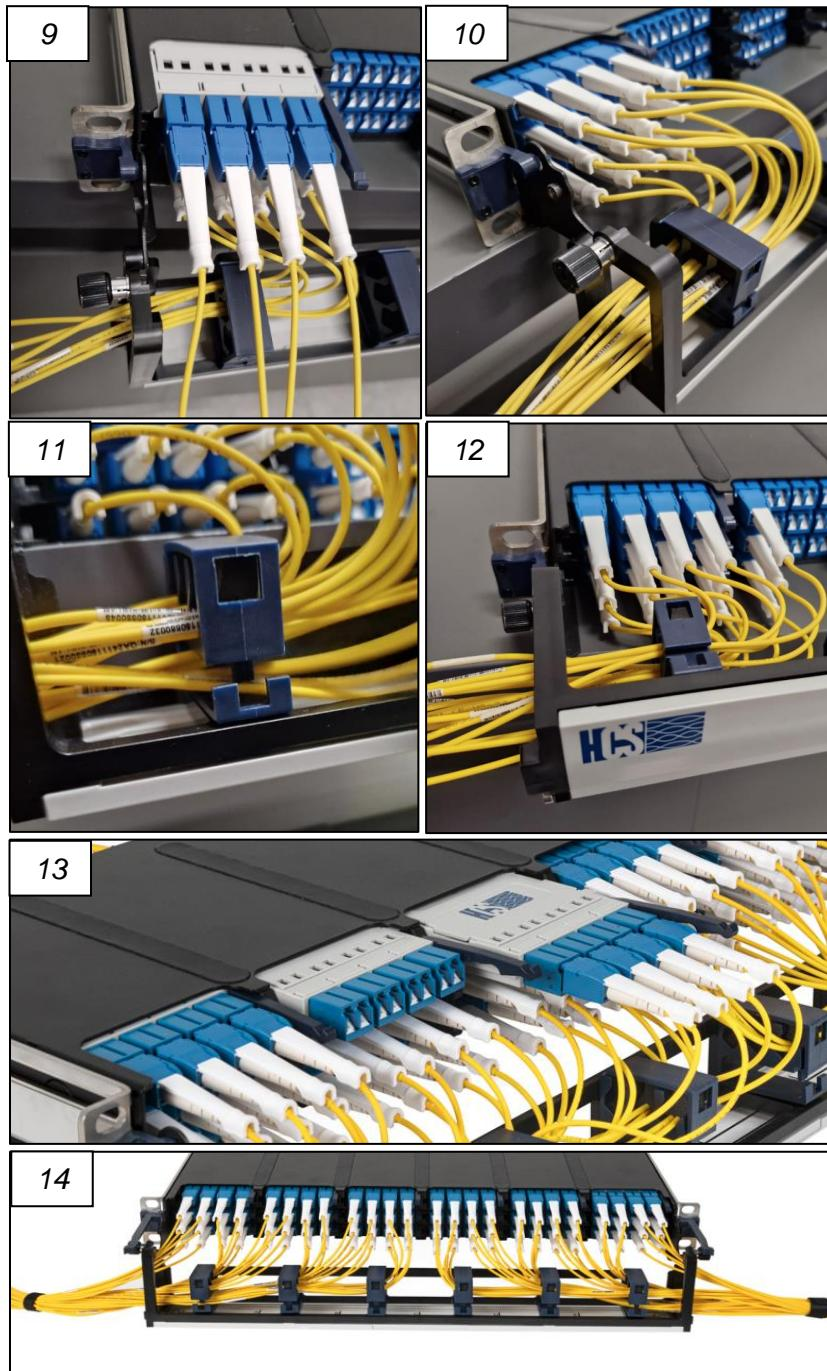

Figure 20 - Install and Route Brilliant Front Jumpers
Step 1: Open panel front door and pull out a 1U panel (Figure 20).
Step 8: Route jumper legs, half to the right and half to the left side of the panel. Do NOT cross legs in opposite directions. Store the jumper legs in the front cable manager clips at the front of the panel (Figure 20).